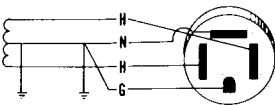

Figure 2
- B. 208 and 240 VAC, single phase, 4 wire outlets (twist-lock and straight blade outlets). You will need special NEMA adaptors, listed in the Accessories section of this Manual (Fig. 2).